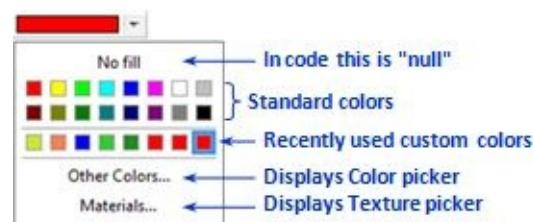

Figure 12.55 Colors dialog
1. Use a polyline to draw a shape, e.g. a star like shown in Figure 12.55.